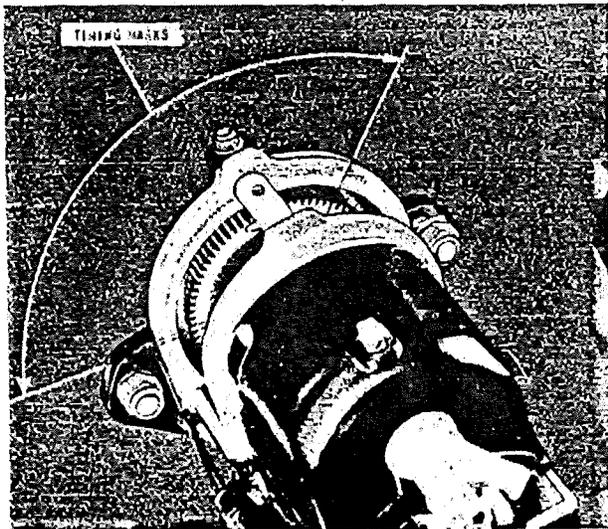

Figure 44 - Magneto Timing Marks.
d. Turn the magneto shaft until the timing marks on the large magneto distributor gear come opposite the timing marks on the inside of the magneto front end plate. Refer to Figure 44.